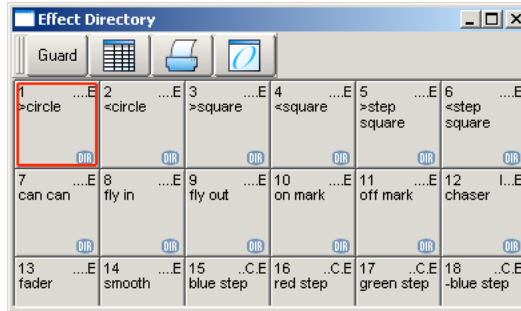

Figure 23.2. The Effect Directory
You can quickly apply effects to the current selection using predefined effects palettes in the Effect Directory; see *Figure 23.2, "The Effect Directory"*. Effects palettes for parameter functions not available in the current selection will be greyed out; for example the Iris Step palette is not available for Studio Color 575s as they do not have an iris parameter.
2. Open + Effect : the Effects Engine and Effect Directory will open; see Figure 23.4, “The Effects Engine” and Figure 23.2, “The Effect Directory”.